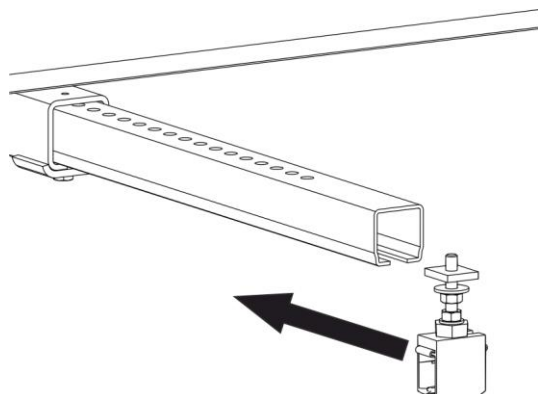

Fig. 52: Slide the first hanger clamp onto the cross arm
- Slide the first hanger clamp onto the cross arm/C-rail (see Fig. 52). Please refer to the project-specific documents for the exact dimensions.